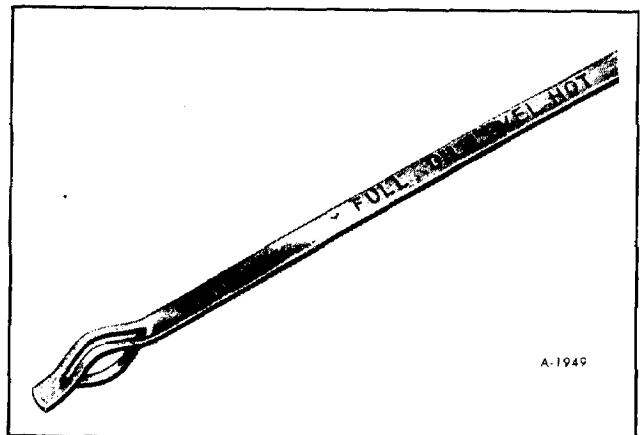

Figure 15—Transmission Dipstick
8. Remove dipstick and note reading. (figure 15)